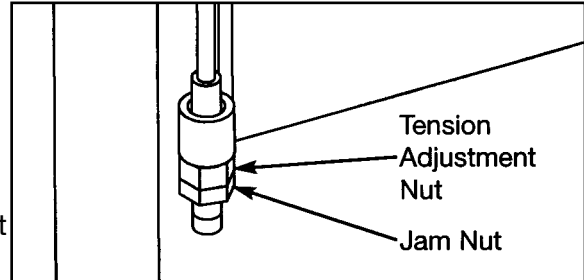

Figure 6
1. Jam Nut Adjustment - This type uses a jam nut and a tension adjustment nut at the cable cam end as the primary adjustment. The other end of the cable usually contains a roll pin adjustment. See Figures 6 and 8.